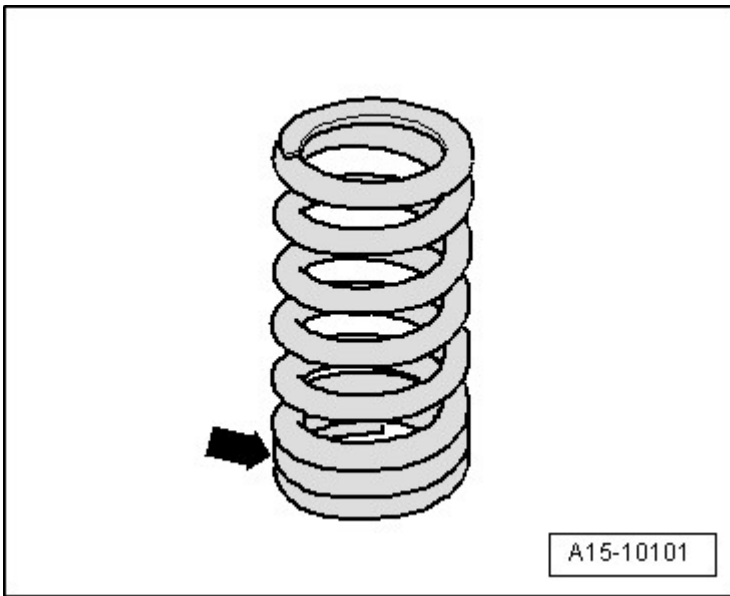

Fig. 20: Identifying Tight Spring Coils
- Installed location **Fig. 20**
- clipped into roller rocker lever -item 8-